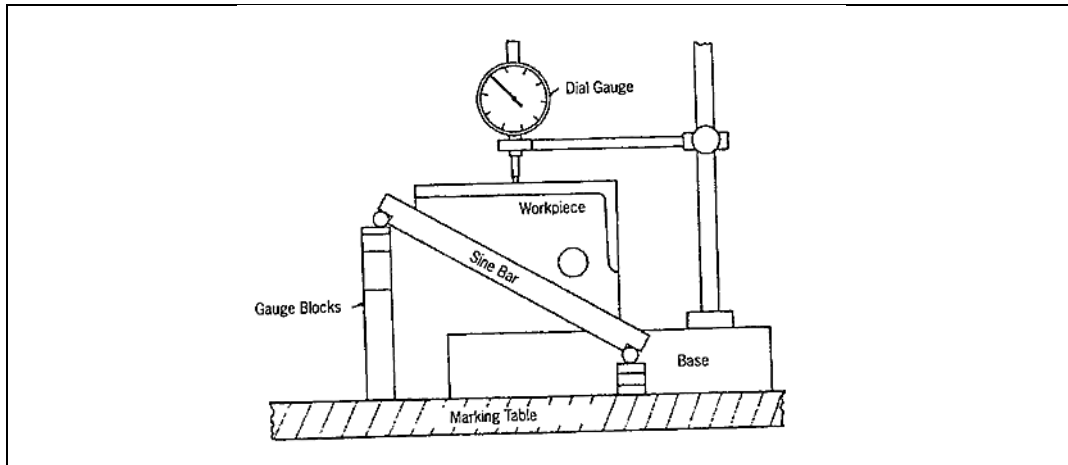

FIGURE 1.4
- 1.4 FIGURE 1.4 shows a sine bar used in conjunction with other instruments. What is the application of the sine bar?